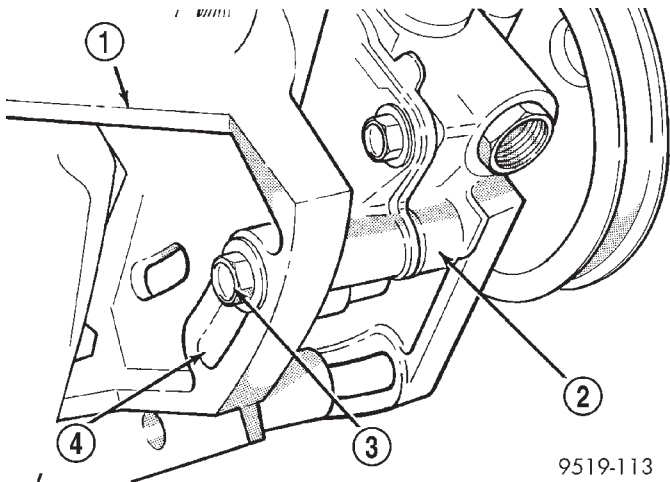

Fig. 6 Power Steering Pump Rear Mounting Bolt
(8) Loosen bolt at adjusting slot in accessory drive mounting bracket, (Fig. 6) attaching back of power steering pump to the bracket.
(13) Remove the power steering pump drive belt from power steering pump pulley.
(14) Remove bolt at adjusting slot in accessory drive mounting bracket, (Fig. 6) attaching back of power steering pump to the bracket.
(5) Loosely install the bolt mounting power steering pump to its rear mounting bracket (Fig. 6).
(6) Using a lint free towel, wipe clean all open power steering hose ends, and power steering pump fittings.